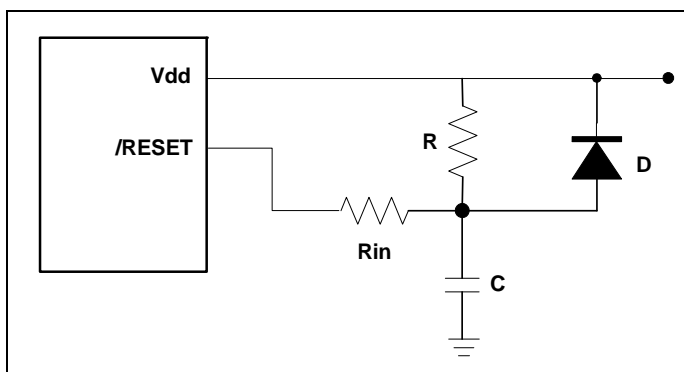

Figure 6-22 External Power-up Reset Circuit
The circuit shown in Figure 6-22 uses an external RC to produce a reset pulse. The pulse width (time constant) should be kept long enough for Vdd to reach minimum operation voltage. This circuit is used when the power supply has a slow rise time. Since the current leakage from the /RESET pin is ± 5 μA, it is recommended that R should not be greater than 40 KΩ. In this way, the /RESET pin voltage is held below 0.2V. The diode (D) functions as a short circuit at the moment of power down.